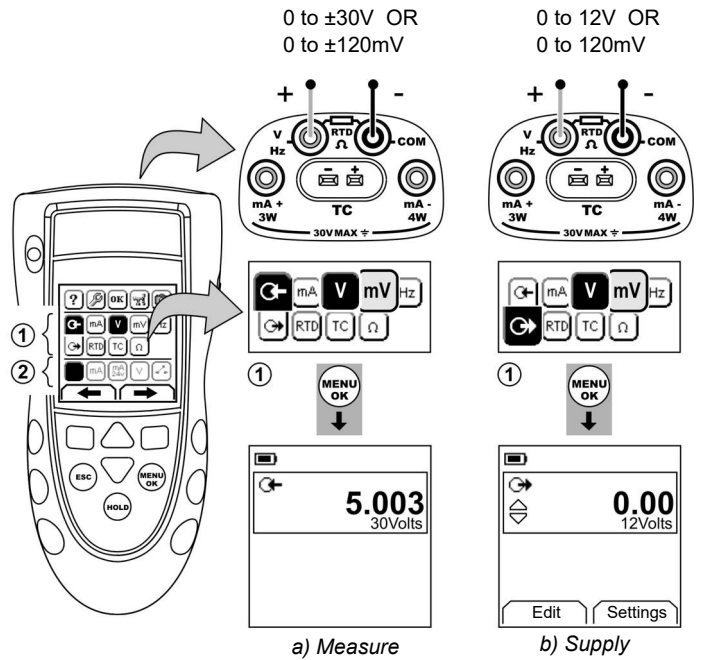

Figure 4: Example configuration - To measure/supply Volts or mV (Area ①)
1. Connect the instrument (Figure 4/5) and, if necessary, adjust the Set Up (Table 1).